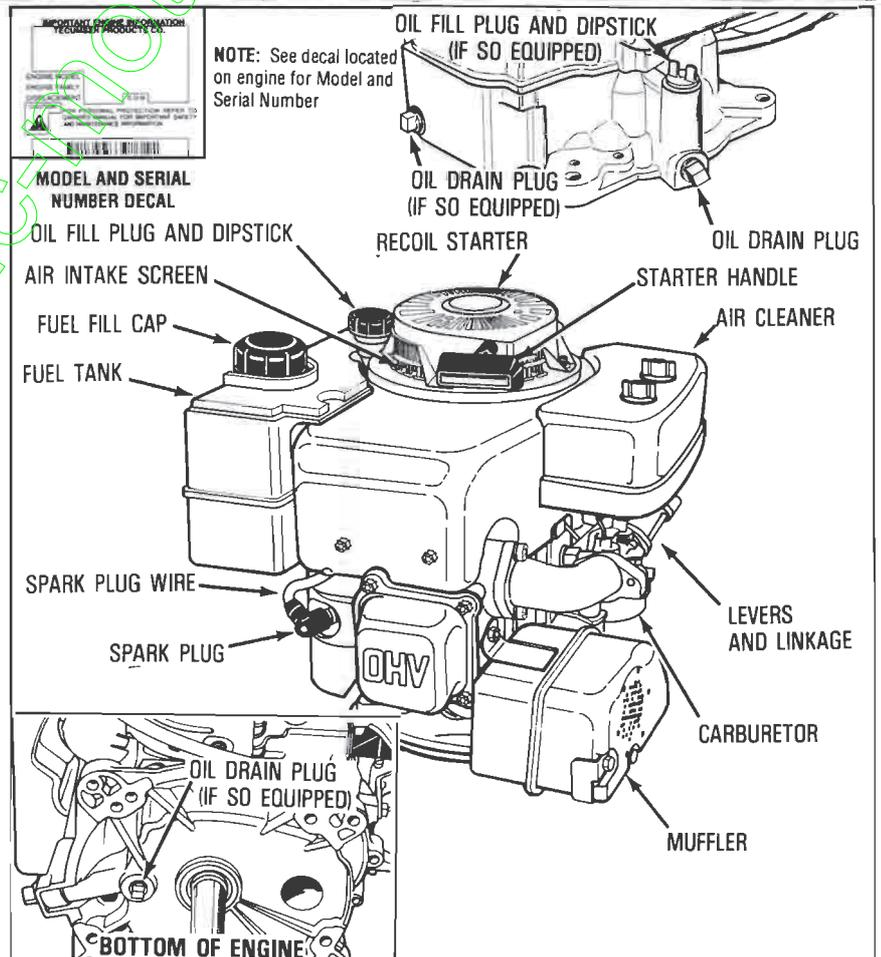

Figure 1
① READ ALL INSTRUCTIONS PROVIDED WITH THE EQUIPMENT ON WHICH THIS ENGINE IS USED.
② **FILL OIL SUMP OR CHECK OIL LEVEL:**
- Clean area around oil fill plug (see Figure 1).
- Be sure spark plug wire is attached to spark plug (see Figure 1).
- Grasp starter handle (see Figure 1) and pull rope out, slowly, until it pulls harder. Let rope rewind slowly. Then pull rope with a rapid full arm stroke. Let rope return to starter slowly.